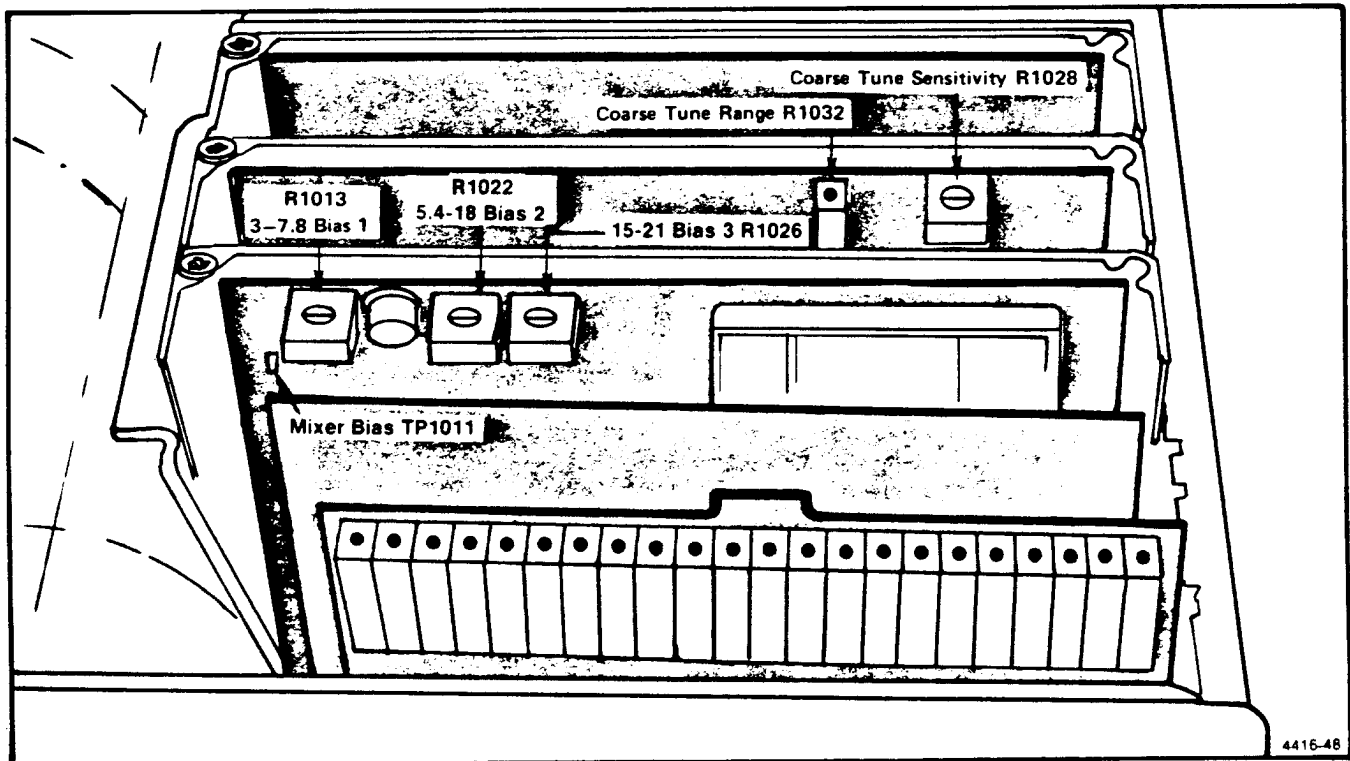

Fig.4-23B Adjustments and test points on the 1st LO Driver board.
d. Connect the DM502 red test lead to TP1011 on the 1st LO Driver board, and the black test lead to the instrument chassis, see Fig.4-23B.
a. Adjust R1022 (see Fig.4-23B) for a reading of -0.25 on the DM502.
b. Push FREQUENCY RANGE ▲ to band 5 (15-21 GHz), and adjust R1026 (see Fig.4-23B) for a reading of -0.25 on the DM502.